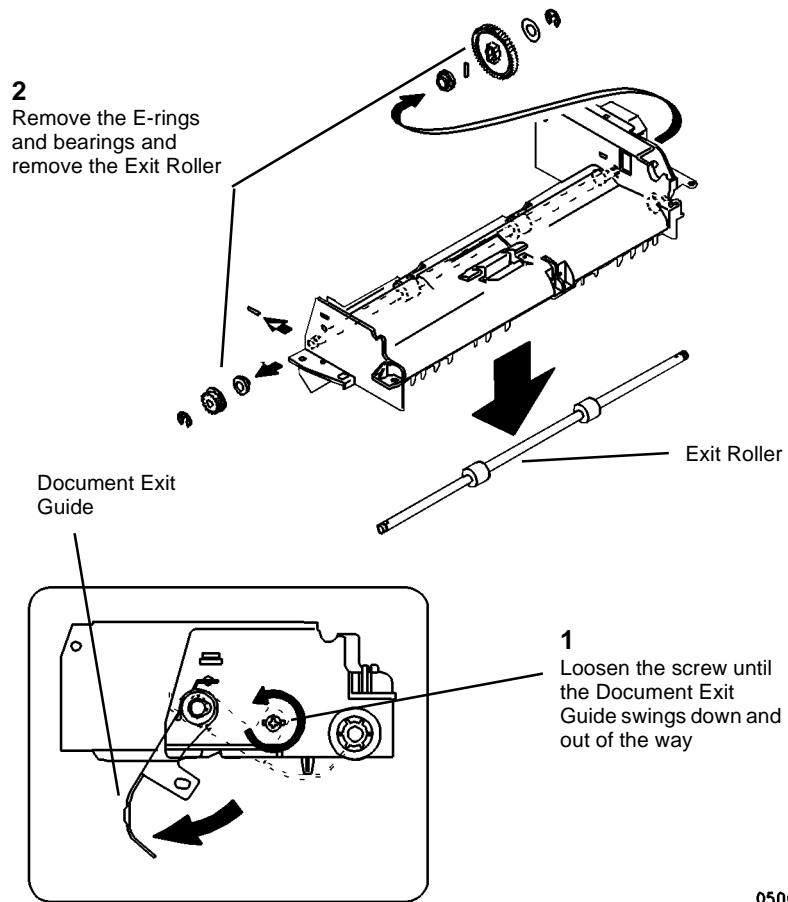

Figure 5 Removing the Exit Roller
5. (Figure 5): Remove the Exit Roller.